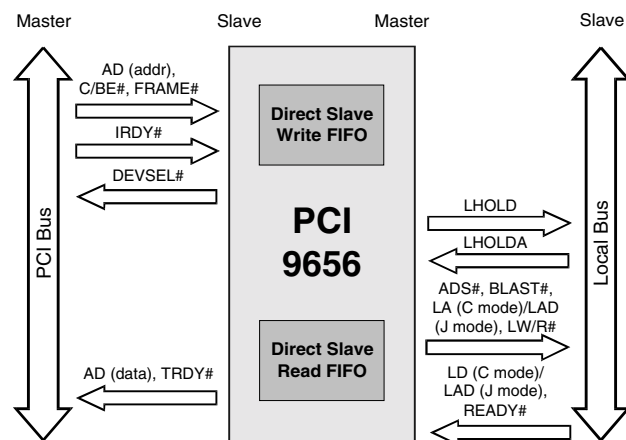

Figure 5-7. Direct Slave Read
**Note:** Figure 5-7 represents a sequence of Bus cycles.